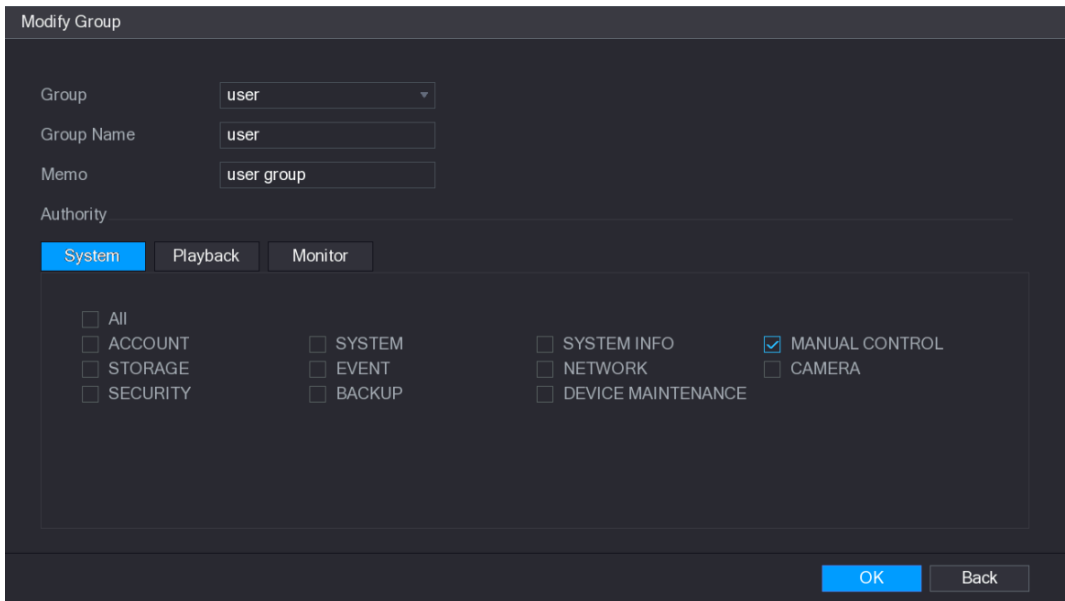

Figure 5-220
Step 3 The **Modify Group** interface is displayed. See Figure 5-220.